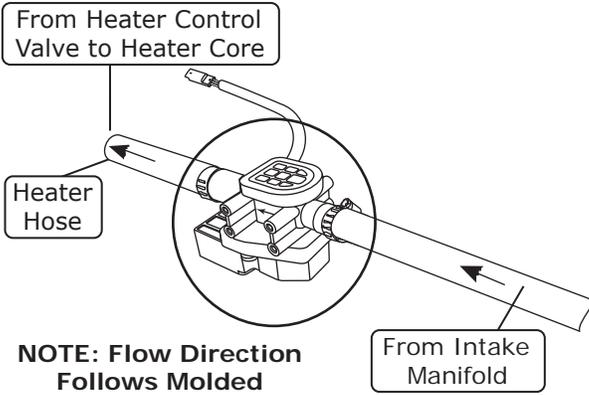

Figure 1
2. Cut a 5" section of heater hose about 2" from the firewall. Install the heater control valve and secure it with (2) hose clamps (See Photo 1, below), ensuring the molded arrow is pointing towards the firewall.
**NOTE: Ensure proper flow direction through the heater control valve. The flow direction follows the molded arrow on the valve (See Figure 1, below).**